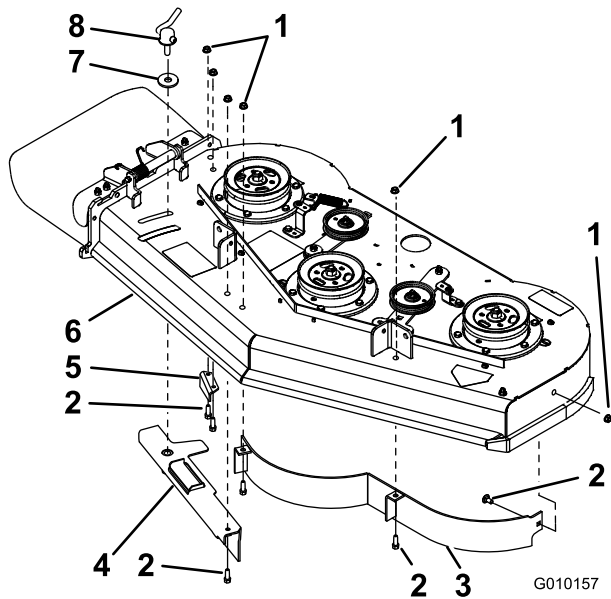

Figure 6
1. Remove the flange nuts holding the baffles in place (Figure 5 or Figure 6).
2. Remove the cam lock and washer by unscrewing it from the adjustable flow baffle (Figure 5 or Figure 6).
3. Remove the six bolts holding the baffles in place (Figure 5 or Figure 6).